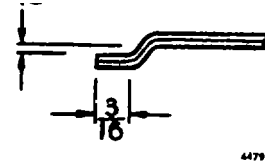

Figure 6
- Bend end of throttle wire as shown in Figure 6.